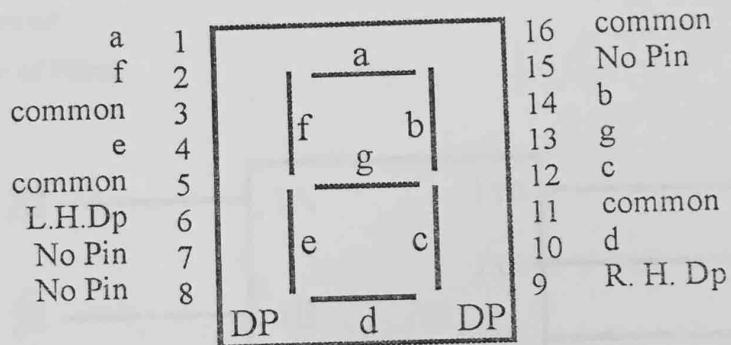

Figure 13.2
4. Wire the circuit according to the diagram shown above by consulting data sheet of Common Anode display in fig. 13.2.